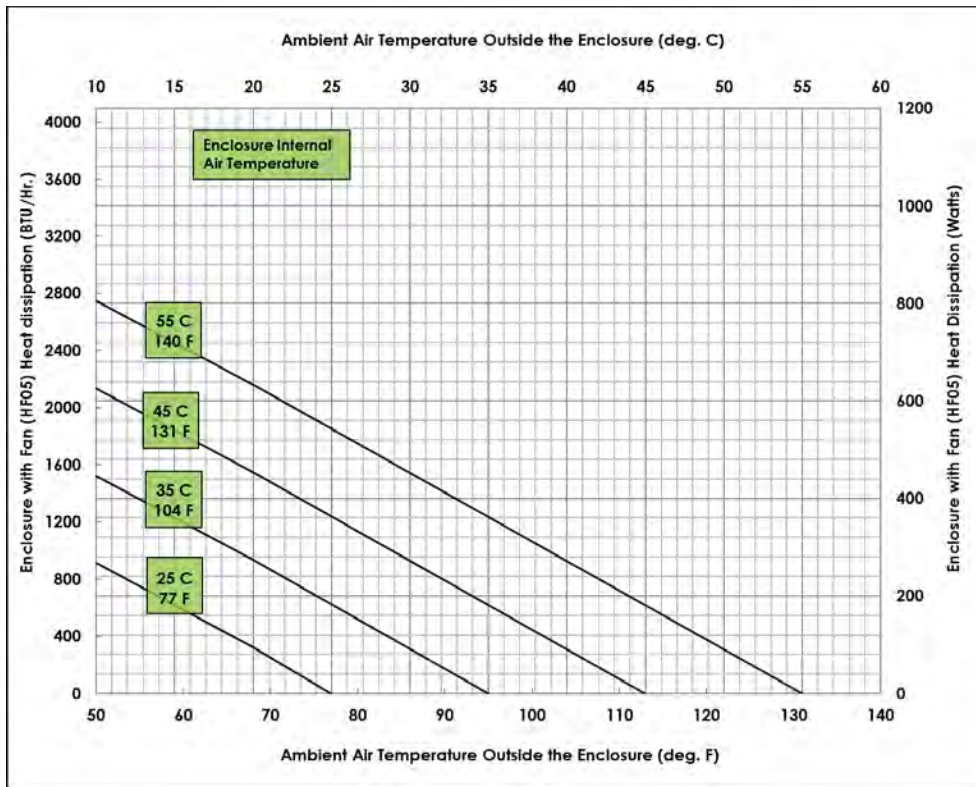

Figure 8: Z23 enclosure thermal guideline – fan assisted. The HF05 fan is available separately from Pentair.
8. Figure 8 provides the heat dissipation guide for a Panduit Z23 enclosure with a power shield and an HF05 fan with the IP54 filter kit.